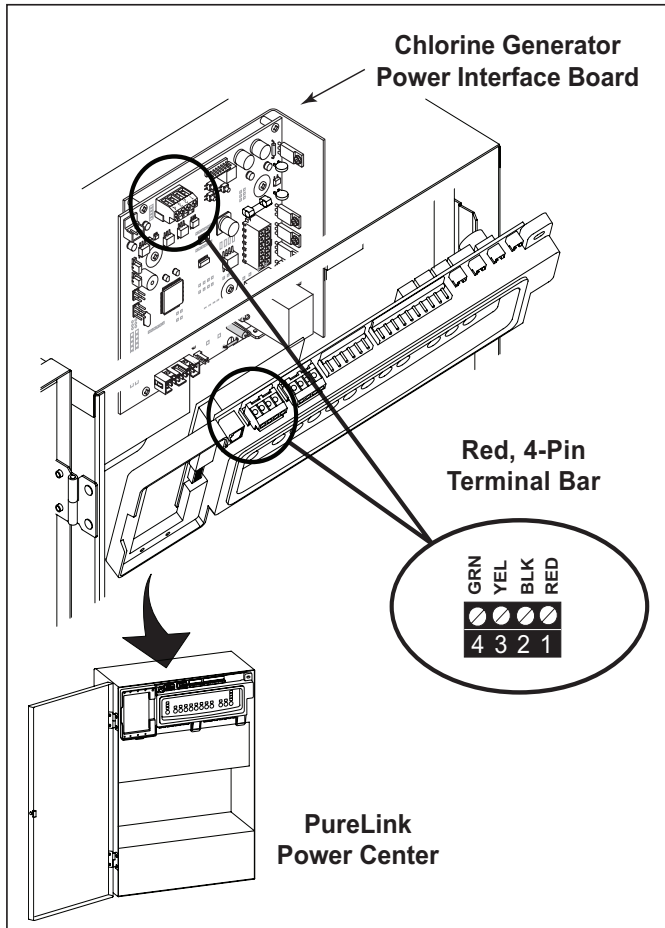

Figure 16. Wiring a PureLink Control System Network
The chlorine generator electronics in the PureLink Power Center and the AquaLink controller require a four (4) wire connection to communicate. Any outdoor rated four (4) conductor cable, minimum 22 AWG, can be used. Locate the appropriate screw terminals on the circuit board according to Figures 16. Wire the chlorine generator Power Interface Board (PIB) from the red 4-pin terminal bar to the AquaLink red 4-pin terminal bar (see Figure 16).